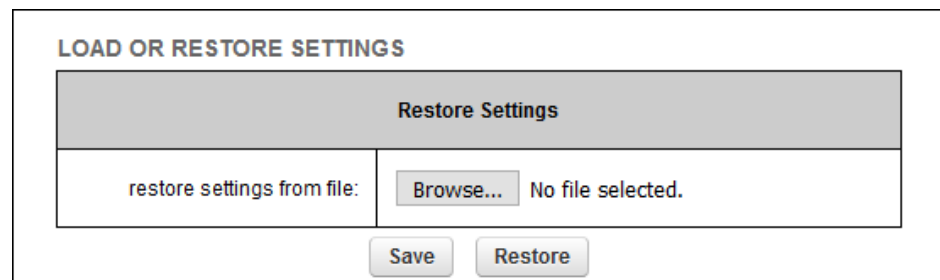

Figure 61. Configurator GUI (LOAD OR RESTORE SETTINGS dialog)
- The **LOAD OR RESTORE SETTINGS** dialog will be shown (Figure 61 \(page 145\)).